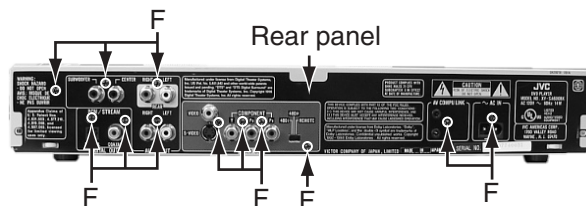

Fig.2-5
2.1.5 Removing the rear panel (see Fig.2-5)